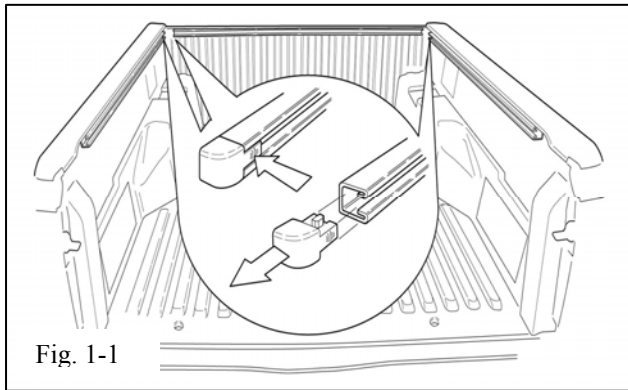

Fig. 1-1
- (a) Remove three bed rail end caps. (Fig. 1-1)